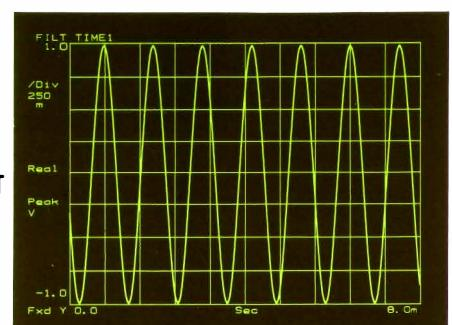

Figure 8-1
6. Display Time Record To display the last time record, press the **MEAS DISP** key, then select the **FILTRD INPUT** (digitally filtered input) softkey. Select the **TIME REC 1** softkey to display the last time record. The display will be similar to Figure 8-1.